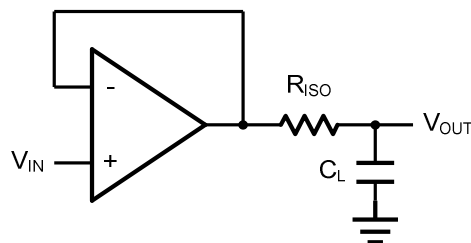
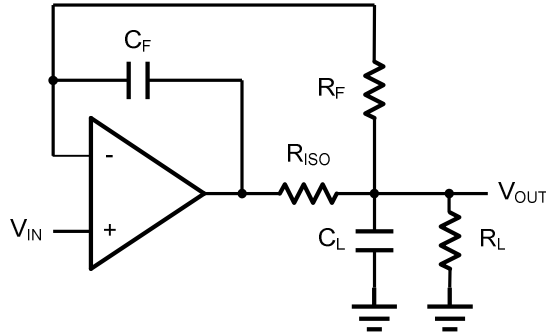

Figure 2. Indirectly Driving a Capacitive Load Using Isolation Resistor
Figure 3. Indirectly Driving a Capacitive Load with DC Accuracy
The LMV72X family is optimized for bandwidth and speed, not for driving capacitive loads. Output capacitance will create a pole in the amplifier's feedback path, leading to excessive peaking and potential oscillation. If dealing with load capacitance is a requirement of the application, the two strategies to consider are (1) using a small resistor in series with the amplifier's output and the load capacitance and (2) reducing the bandwidth of the amplifier's feedback loop by increasing the overall noise gain. Figure 2. shows a unity gain follower using the series resistor strategy. The resistor isolates the output from the capacitance and, more importantly, creates a zero in the feedback path that compensates for the pole created by the output capacitance.
The circuit in Figure 3 is an improvement to the one in Figure 2.  $R_{\text{F}}$  provides the DC accuracy by feed-forward the  $V_{\text{IN}}$  to  $R_{\text{L}}$ .  $C_{\text{F}}$